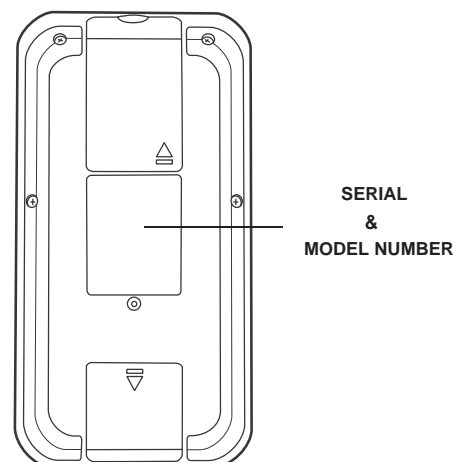

Figure 17 **Product Information Label**
- 1 Gather the following information from the printed labels (see Figure 17) on the bottom of *each* PP1000se device to be returned:
- The serial number assigned to the PP1000se device (located at the bottom of the unit (see Figure 17).